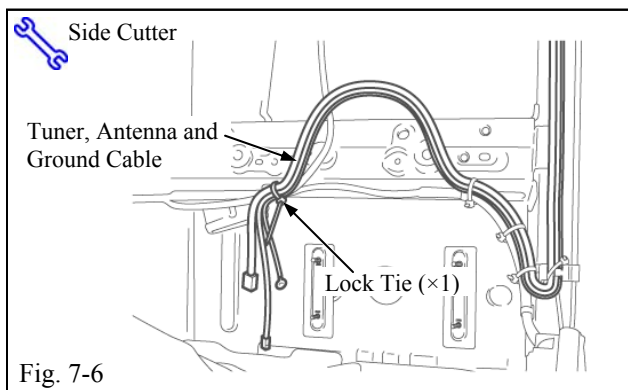

Fig. 7-6
- (4) Secure the marked areas of the tuner cable, antenna cable and ground cable to the wire harness with the one (1) lock tie. (Fig. 7-6)